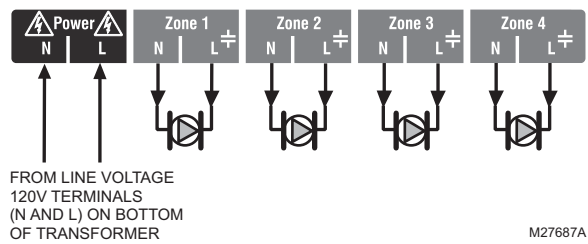

Fig. 10. Wiring an AQ15540B Zoning Module for use with line voltage circulators.
Refer to Fig. 10. Remove the plastic wiring barrier that is located in the bottom wiring channel between the AQ15100B Control Module and the Zoning Module. Run jumper wires from the N and L terminals on the bottom of the AQ251 Control Panel's transformer, through the wiring channel across the bottom of the Control Panel, and to the corresponding N and L terminals of the Zoning Module.
*If low voltage zone valves are used with the AQ25142B Control Panel, the supplied Low Voltage Output sticker (shown in Fig. 11) **must** be applied over the line voltage output sticker (see Fig. 10) that is already attached to the Zoning Module.*